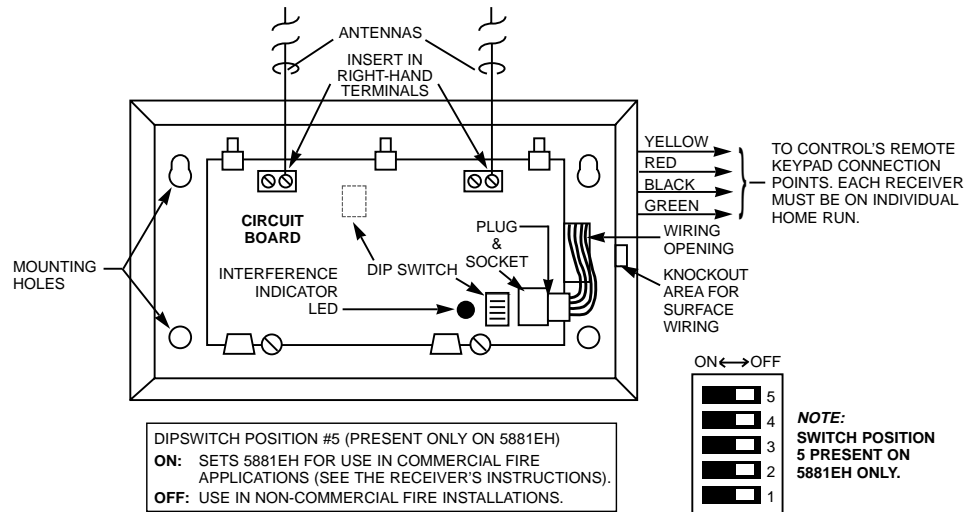

Figure 15: 5881 Wireless Receiver (cover removed)
2. Connect the receiver's wire harness to the control's keypad terminals (6, 7, 8, and 9). Plug the connector at the other end of the harness into the receiver (see Figure 15).